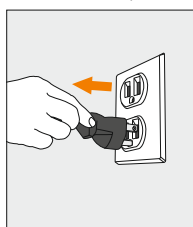

Figure 14
1. Unplug and approach the cooler from the front (Figure 14).